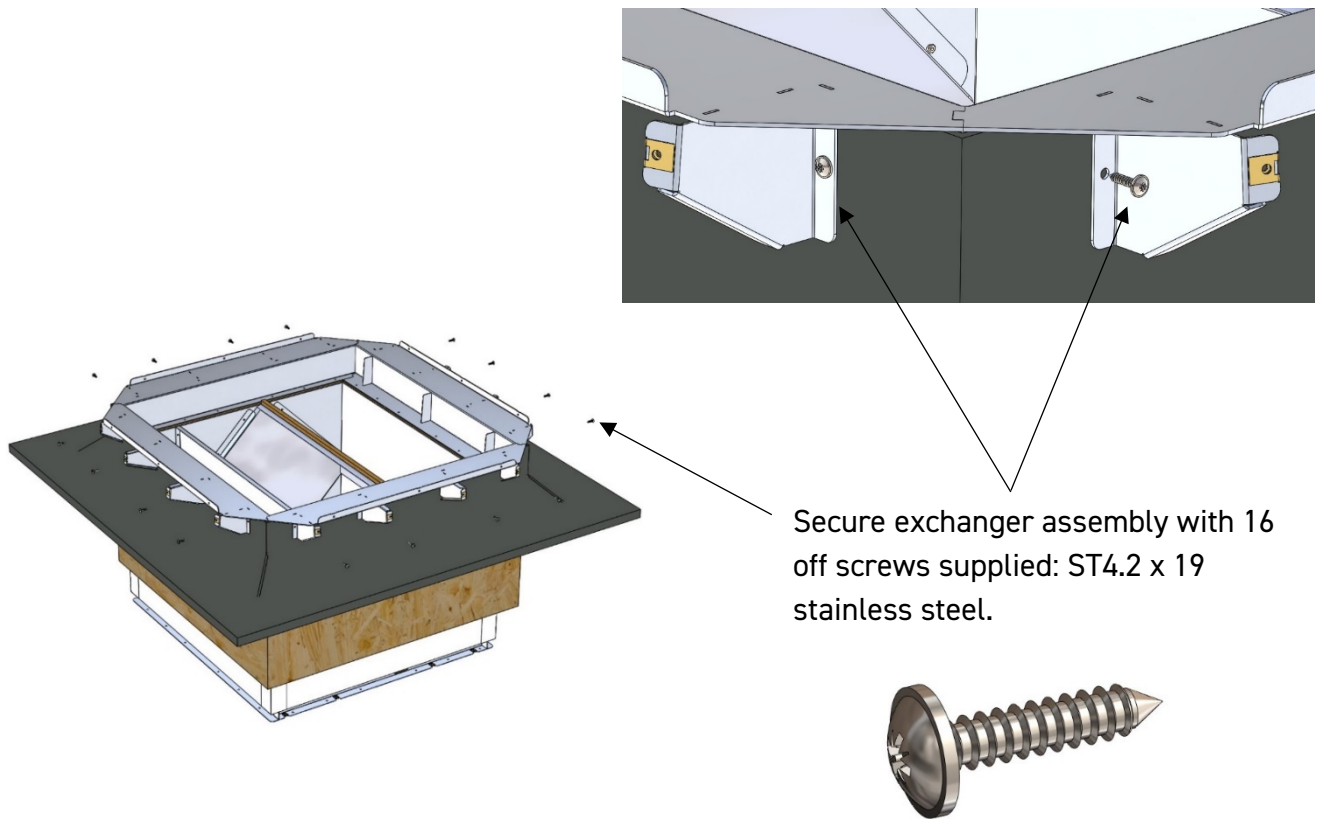

Figure 15 – Screw fixing location for the heat exchanger.
3. Align screws with the holes in the heat exchanger and fix the heat exchanger frame to the timber upstand. Using the 16 number ST4.2 stainless screws supplied *4 per side* in locations as shown in *figure 15.*